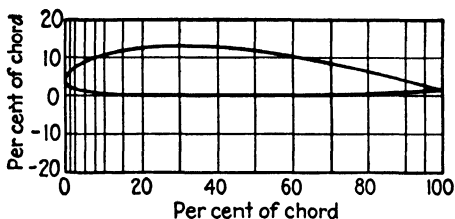

Fig. 200.—Airfoil section: Boeing 103.
1. Calculate the data necessary to lay out a 12-in. rib of the airfoil section shown in Fig. 200. All data are in per cent of chord.